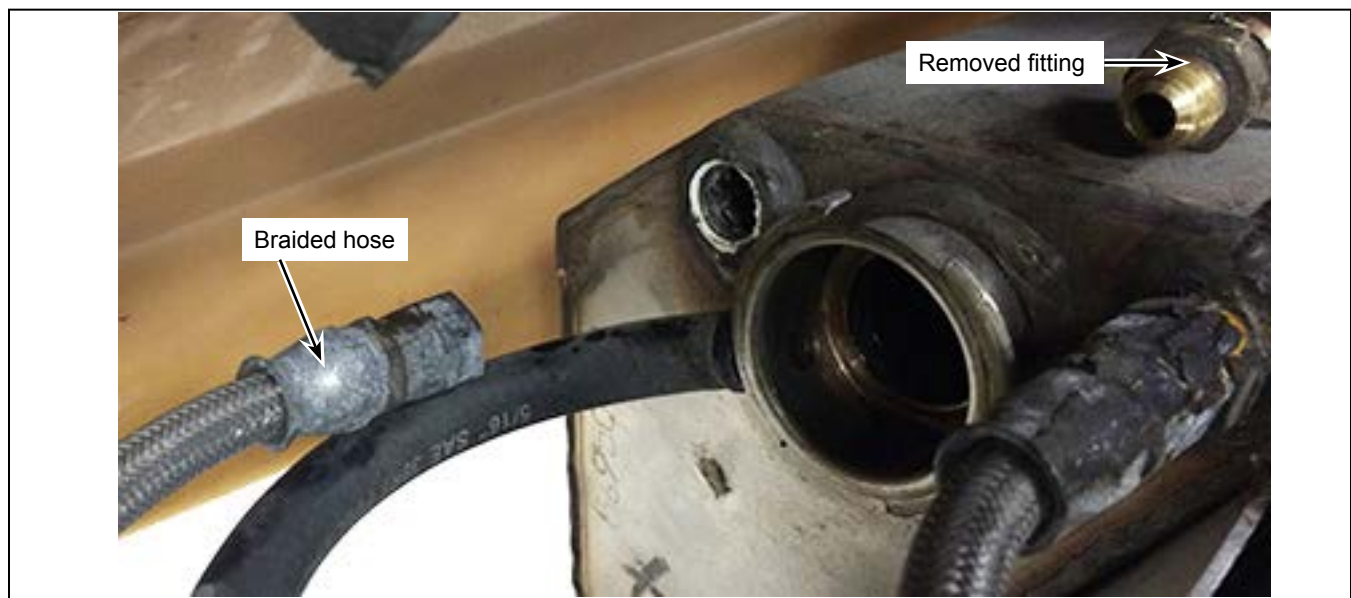

Figure 5 - Braided Hose Disconnected and Fitting Removed
- 1.13. Disconnect the braided hose (located between the radiator and the surge tank) from the surge tank fitting and remove the fitting from the surge tank. Discard the fitting. See Figure 5.